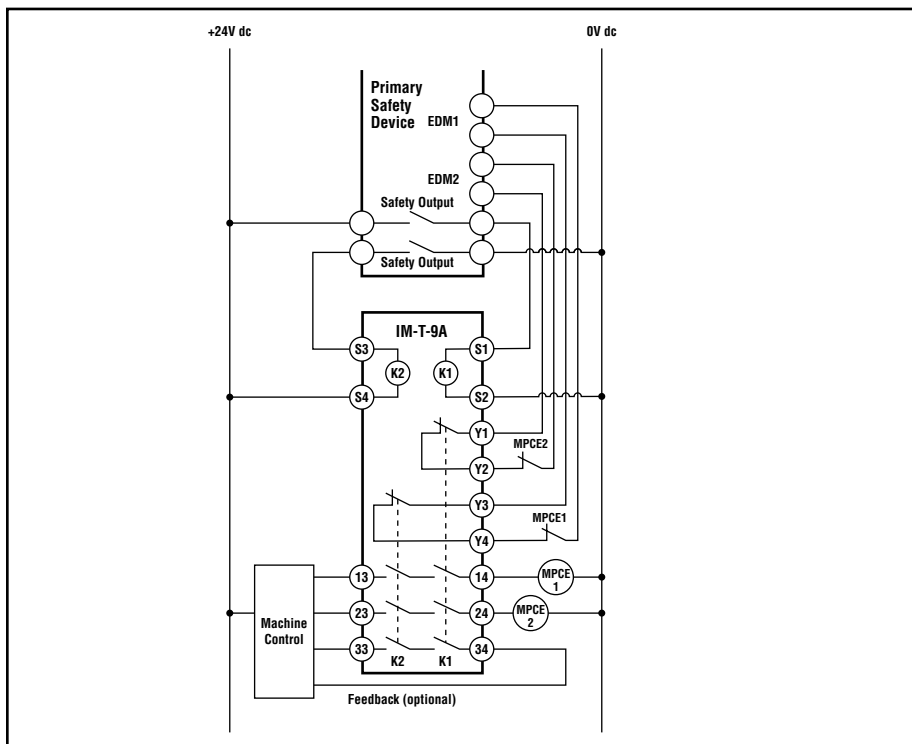

Figure 4. Generalized hookup to a 2-channel primary safety device with two hard-contact safety outputs (FSD1 and FSD2) and two monitoring inputs
2. **ALWAYS** connect terminals Y1-Y2 and Y3-Y4 of this Interface Module to the monitoring input of the primary safety device that controls it (see Figures 4 through 8).
Interface Modules **IM-T-9A** and **IM-T-11A** are driven by one or two safety output channels of a primary safety device. For higher risk applications, the design of the primary safety device must meet OSHA/ANSI control reliability requirements (U.S. applications) or ISO/IEC/EN Category 3 or 4, Performance Level d or e, and SIL 2 or 3 requirements for European applications. **IM-T-..A** Modules must be used only with primary safety devices which have External Device Monitoring capability (see Figures 4 through 8 and the Warning Interfacing MPCEs on page 7).
The **dual-channel hookup configuration (Figures 4 through 8)** allows the primary safety device to detect certain failures and faults, such as short circuits, that could result in a loss of the safety function. Two-channel control should be used whenever unsafe failure of the control wires cannot be eliminated. This circuit (Figure 4) can meet ISO 13849-1 Category 2, 3, or 4 requirements, depending on the safety rating and the installation of the primary safety device.
When FSD1 switches +24V dc and FSD2 switches 0V dc (Figures 4 and 5), a short circuit between the wires leading to S1, S2, S3 and S4 is detected immediately and K1 and K2 de-energize. However, a short circuit can result in a high current through the FSD1 and FSD2 contacts, so the current coming from the 24V dc supply connected to FSD1 and FSD2 must be fused or limited to 6 amps max. Otherwise, damage to the primary safety device may result.
To satisfy the requirements of Control Reliability (OSHA and ANSI), Category 3 and 4 of ISO 13849-1 (EN 954-1), the Machine Primary Control Elements (MPCEs) must each offer a normally closed, forced-guided (mechanically linked) monitor contact. Connect one normally closed monitor contact from each Machine Primary Control Element as shown in the appropriate hookup drawing (figures 4 through 8).
Two-Channel Control (Figures 4, 5, 6 and 7): Two-channel control allows the Primary Safety Device to detect an unsafe failure of the control wires. Two-channel control should be used whenever unsafe failure of the control wires cannot be eliminated.
The Interface Module can be used safely only when its operation is controlled via an appropriate primary safety device, connected to the Interface according to the wiring diagrams shown in Figures 4 through 8.